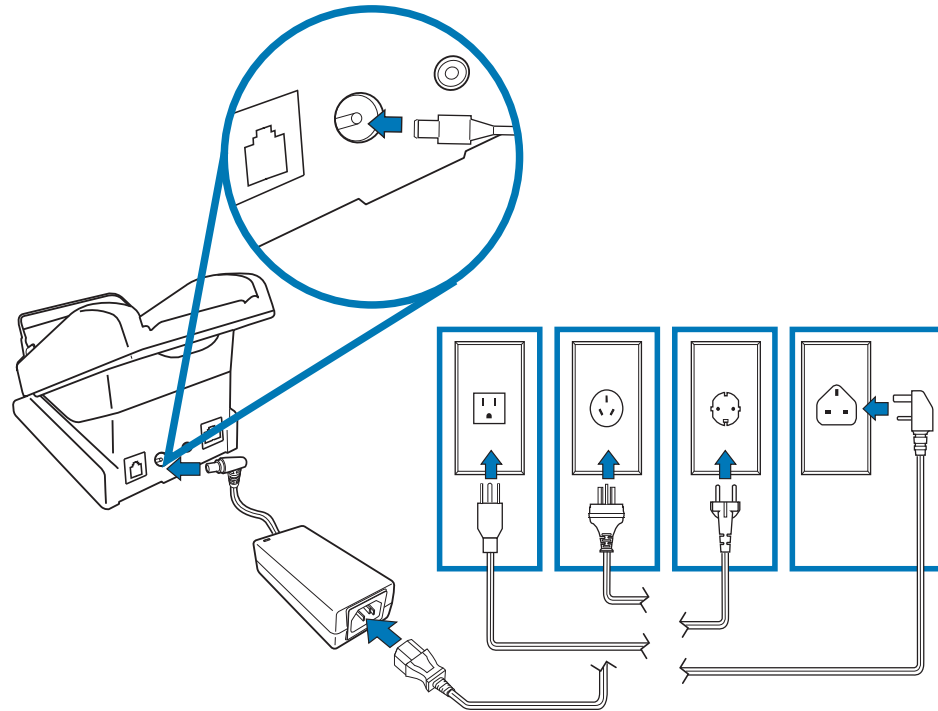

Figure 11 Power Connection to the Bluetooth® AP Charging Base Station
- 1 Insert the round barrel connector into the power port on the Bluetooth® AP Charging Base Station, as shown in Figure 11.